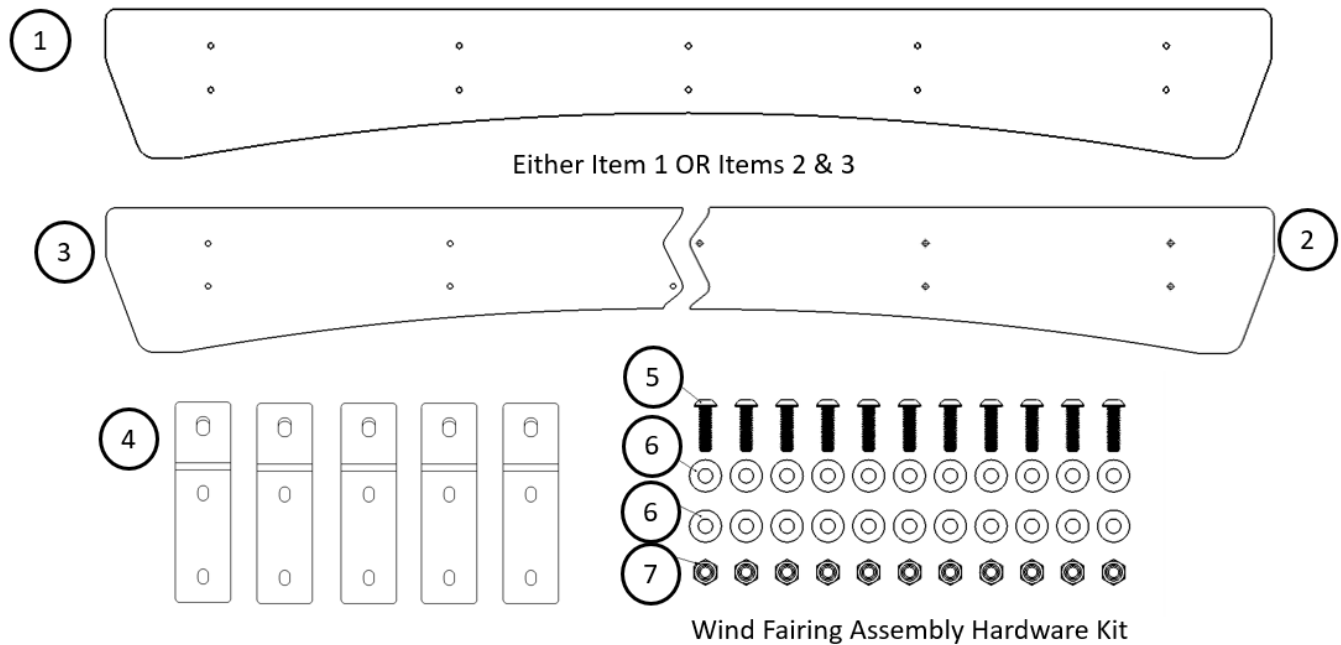

Figure 4: Wind fairing parts provided (Items are not shown to scale)
brackets. The installation hardware required to bolt the wind fairing plus brackets to your rack cross bar is sold separately. Table 1 lists the parts, part numbers, and quantities of parts required to assemble and install the wind fairing. Figure 4 shows what each part looks like. Please note that Figure 4 is not shown to scale. Please also note that we include some extra hardware in case you lose some or have issues. We included one extra of Items 5 and 7, and two extra of items 6.